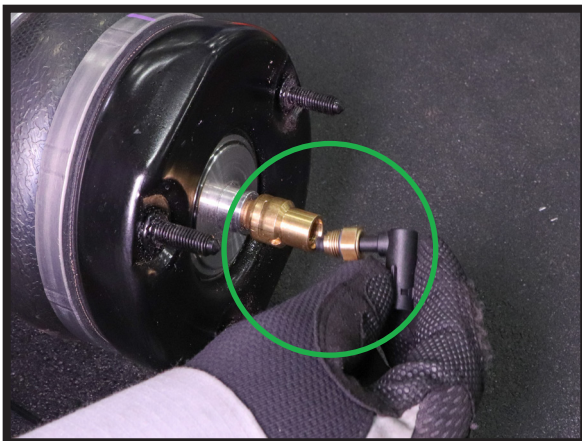

FIGURE 23
1. INSTALL THE AIR FITTING FROM THE PROVIDED ACCESSORY KIT ON TO THE AIR STRUT AND SNUG TIGHT WITH A WRENCH. (FIGURES 23, 24)